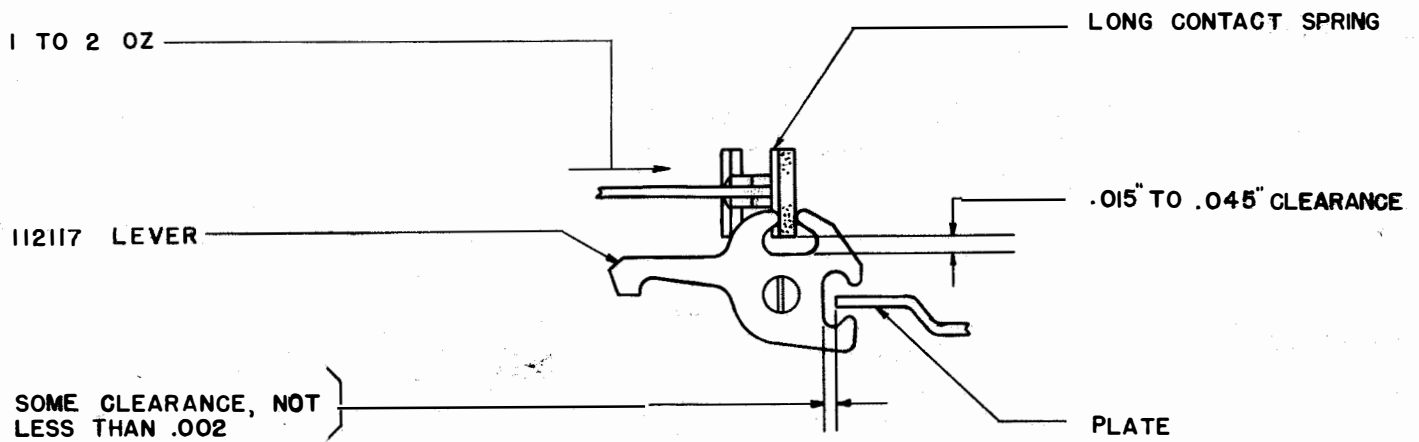

FIGURE 5
- (1) Repeat Contact Bracket Adjustment (Figure 5)
(a) The contact points should be in line and there should be .015" to .045" clearance between the insulator on the long contact spring and the bottom of the upper cut-out in the 112117 lever (Figure 5.) To adjust, position the contact pileup by means of the clamping screws. Recheck standard adjustment: Punch contact operating lever backstop adjustment.
(c) Unhook the detent lever spring from the detent lever. When the armature is held partially operated so that neither lobe of the 112117 lever is touching the plate, the contact points should meet squarely and it should require 1 to 2 ozs. to separate the points when the push end of an 8 oz. scale is applied to the long contact spring between the rivets (Figure 5). To adjust, bend the long contact spring.